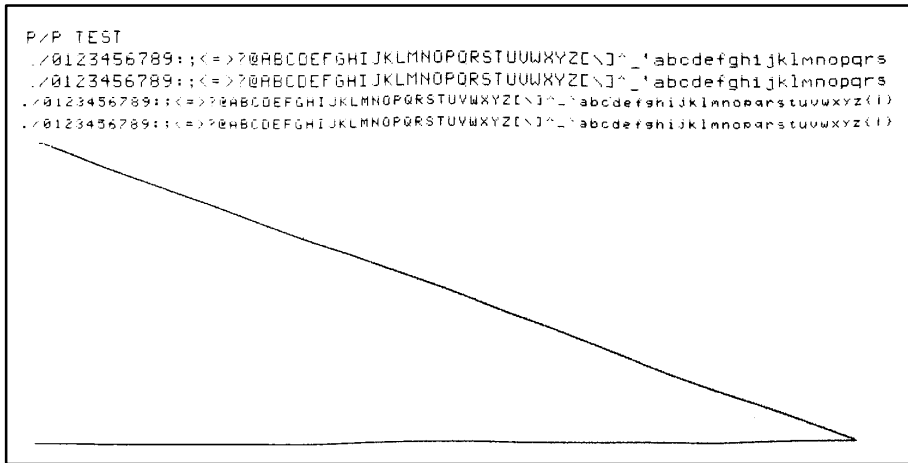

Figure 7-3. Example of Test L
(L) P/P Test (Print/Plot Test)—This test will print out four lines of the entire HP 3396 character set. The first two lines will be in large font, and the second two lines will be in small font; then, a diagonal line and a horizontal line will be plotted across the full width of the paper. The printout can be checked visually for any irregularities. (See example in figure 7-3.)